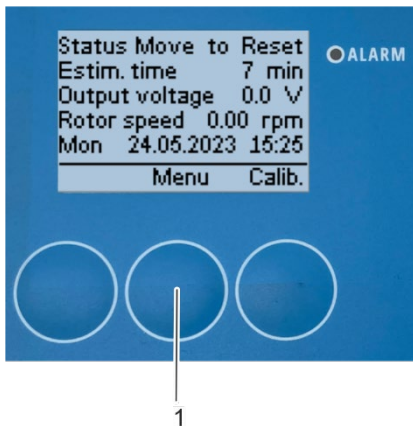
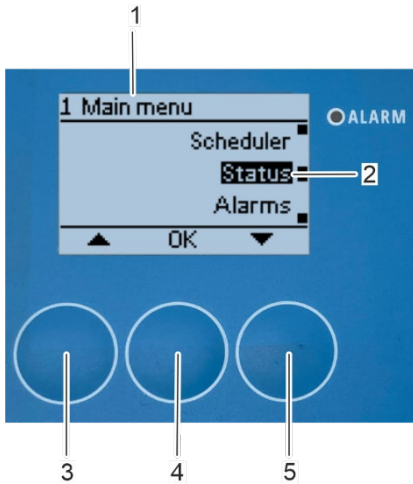

Fig. 170: Open main menu
Fig. 171: Open submenu "Status"
1. Press [Menu] (Fig. 170/1) to open the “1 Main menu” menu (Fig. 171/1).
⇒ The “1 Main menu” menu appears on the display (Fig. 171/1).
2. Select the "Status" submenu (Fig. 171/2) with the arrow keys [up] (Fig. 171/3) and [down] (Fig. 171/5).
3. Confirm the selection with [OK] (Fig. 171/4).